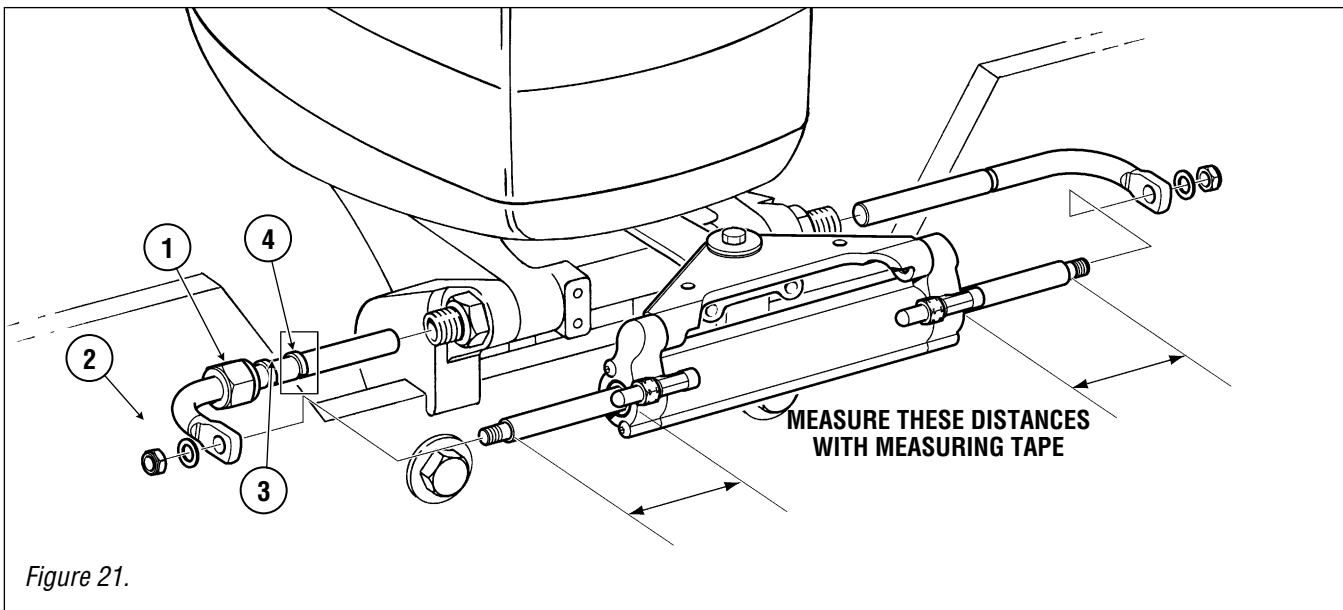

Figure 21.
2. Using a measuring tape, measure the amount of steering rod on both sides of the steering cylinders. (Refer to Figure 21.) If the starboard side of the rod is shorter than the port side by  $11/16$ " or more, proceed to Step 3. If less than  $11/16$ " your cylinder is centered, continue on with steering installation as per your installation manual.
3. Remove the support rod mounting nut (item 1), the cylinder end nut (item 2), then remove the support rod assembly.
4. Carefully remove the support rod retaining clip (item 3) using a vice, and move the clip to the inner groove (item 4).